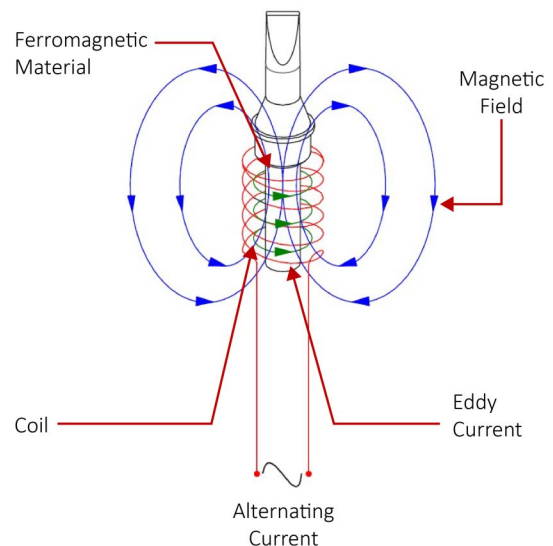

Figure 3: Eddy Current Location
Eddy current losses are created when an alternating magnetic field is applied to a ferromagnetic material. Since the ferromagnetic material is also electrically conductive, the applied magnetic field induces an electrical current within the material. These circulating electrical currents flow in swirls or eddies on the surface of the material, hence the name eddy currents (Figure 3). In turn, these eddy currents produce a loss called eddy current loss, equal to (I^2R) , where (I) is the value of the current, and (R) is the resistance of the material. The heat generated by eddy current losses is proportional to the resistance of the ferromagnetic material and the current applied to the system.